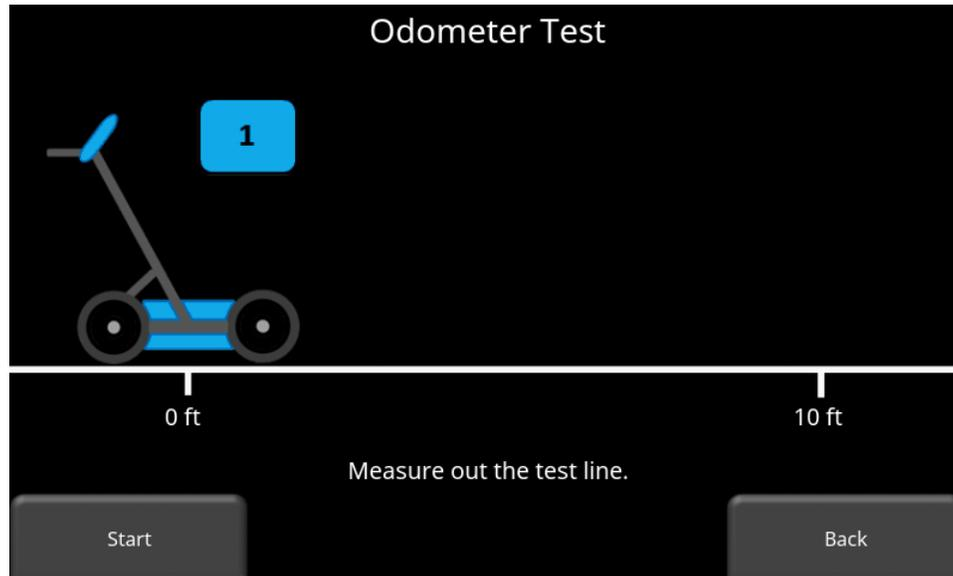
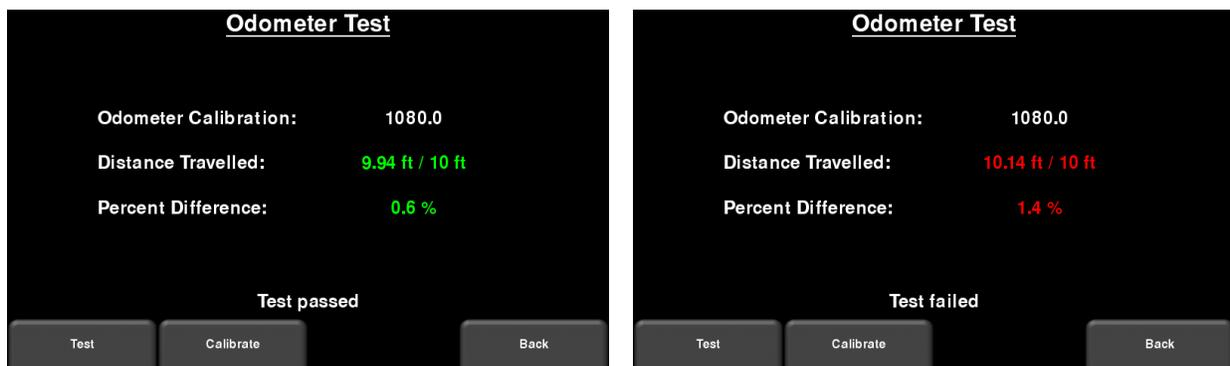

Figure 6-18: Doing an odometer test
Figure 6-19: Odometer Test passed on left, failed on the right
- **Odometer Test** – This test verifies the odometer is calibrated properly. It involves moving the system a set distance (5m or 10', depending on units used), and comparing the value obtained to a known value. The screen in Figure 6-18 will be displayed once Odometer Test is pressed. Press **Start** to begin and then press **Finish** when you've moved that distance. It will display a pass or fail, along with a percentage difference from the known value (Figure 6-19).